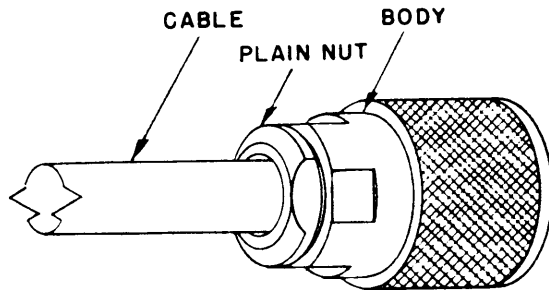

FIGURE 5
8. Holding cable and BODY rigid, tighten PLAIN NUT securely with wrench. See Figure 5.